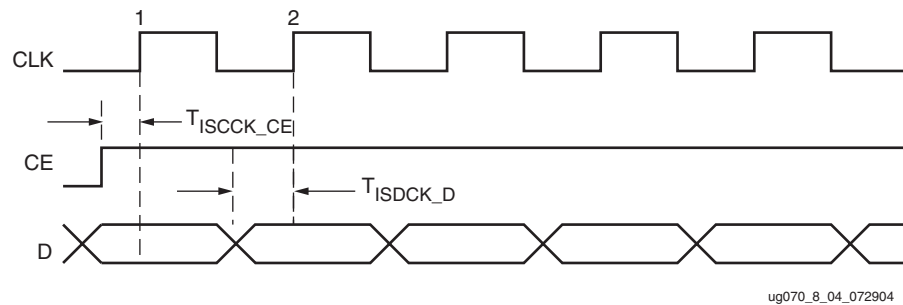

Figure 8-9: ISERDES Input Data Timing Diagram
In the timing diagrams of Figure 8-9, the timing parameter names change for different modes (SDR/DDR). However, the names do not change when a different bus input width, including when two ISERDES are cascaded together to form 10 bits. In DDR mode, the data input (D) switches at every CLK edge (rising and falling).
Figure 8-9 illustrates an ISERDES timing diagram for the input data to the ISERDES in SDR mode.